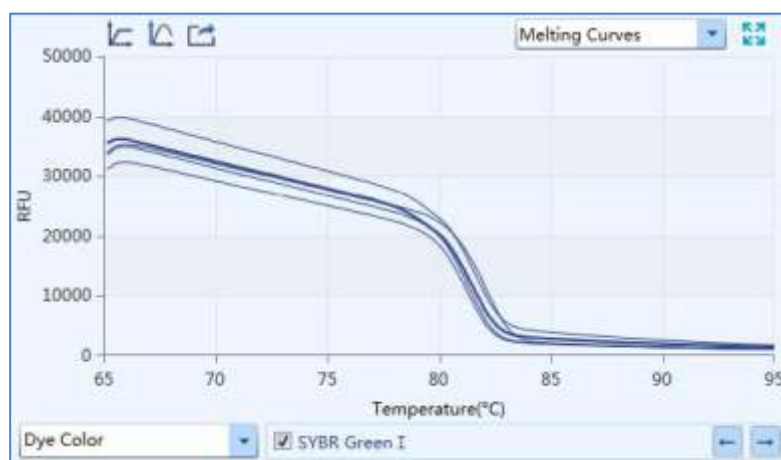

Figure D-13.1 Melting Curves analysis interface - Melting Curves functional module
- I. **Melting Curves:** display the fluorescence intensity against the temperature, as shown in figure D-13.1.